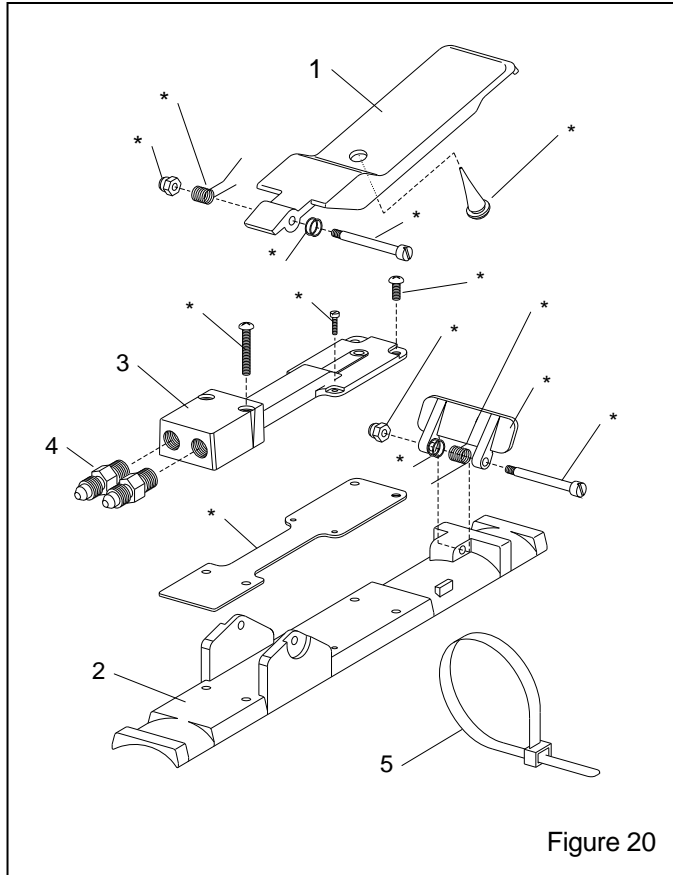

Figure 20
**8.9 RLX Pneumatic, Figure 20**